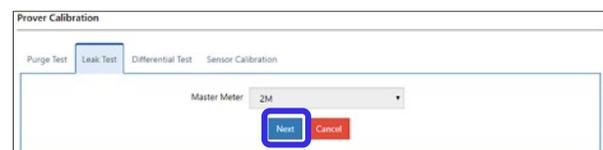

Figure 100: Click Next to proceed
6. When you are ready to proceed, click **Next** (Figure 100).